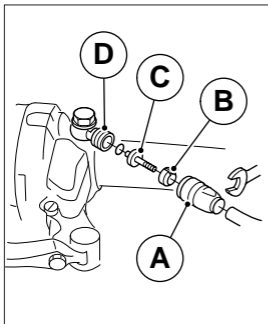

Fig. 8
Remove the hose fitting connector **A** (Fig 8) using an 8mm open wrench to loosen it. Once you have decided for the desired hose length, cut the part in excess using a cutter. Insert connector **A** again in the hose and cut to measure making sure not to cause any oil leakage then assemble a new biconical bush **B** and a new plug **C** and tighten them firmly. Slightly coat the biconical bush **B** and the screw thread with some grease then retighten on the connector **D** the parts left on the pump.
*Should biconical bush **B** (Fig 8) not be tightened enough, as prescribed, it might come loose while riding. This causes hose detachment and consequently a dangerous situation for the rider and for anyone found nearby.*